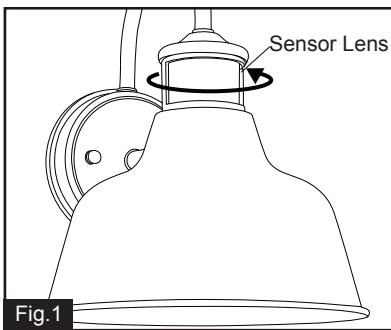

Fig.1
Step 1: Rotate the sensor lens from left side to right side to show the adjustable knobs and slide switch. (See Fig.1)